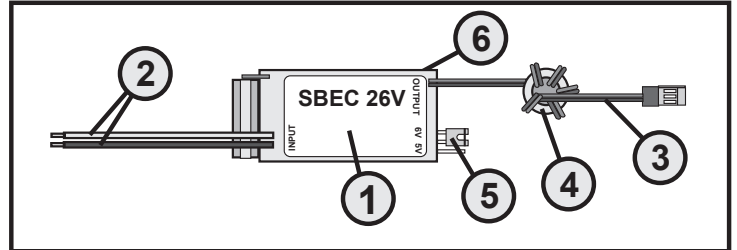

Figure 1
Before you can connect the output cable to the servo plug (3) at the rechargeable battery output of the receiver, you must pass the cable through the ferrite ring (4) a total of 5 times as per figures 1 and 2. The ferrite ring can be surrounded with a suitable piece of shrink-tubing to affix the cable. Then connect the servo plug on your receiver.